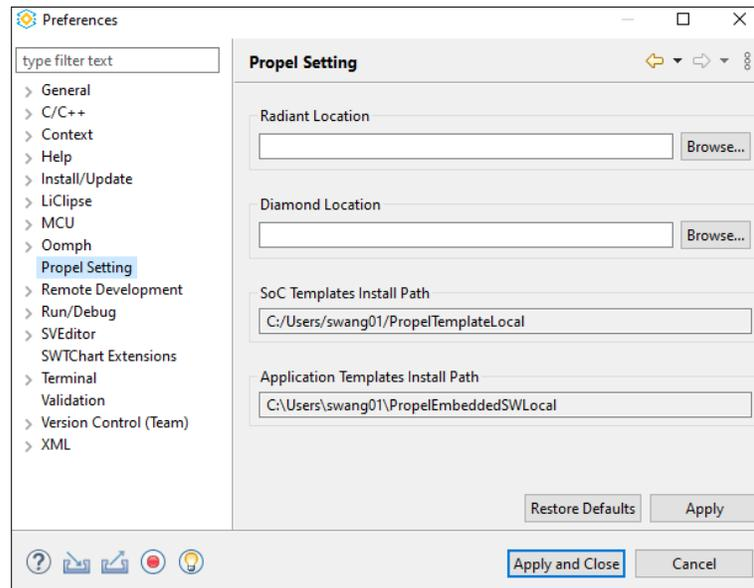

Figure 3.10. Lattice Propel Setting Page
7. Extract the zip archive to the **Application Templates Install Path** (Figure 3.10).